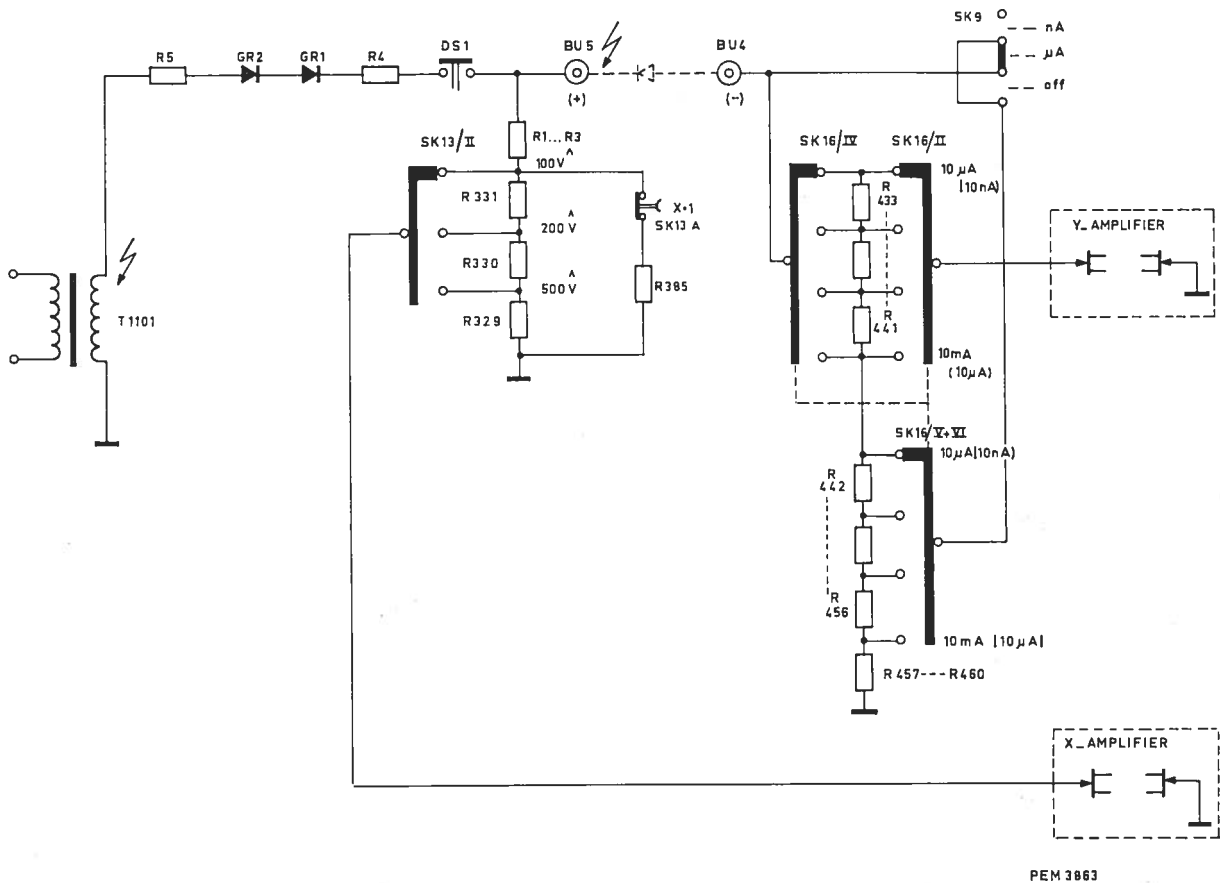

Fig. 60. Measuring circuit for breakdown-voltage and leakage-current measurements
The horizontal deflection determines the collector voltage in 15 ranges. The 3 upper ranges (100, 200 and 500 V/cm) serve for measuring breakdown voltages (H.T. source). These three voltage ranges can be reduced by a factor 10 with push-button x.1 (SK 13A); when this button is depressed, parallel resistor R385 is disconnected (Fig. 60). Switch position " " serves for displaying the step signal whereby the range value selected with SK10 should be employed for reading the signal amplitude. For displaying the base voltage, e.g. as a function of I_B , 4 ranges are available from 10... 100 mV/cm.
3. Circuit for breakdown voltage and leakage current measurements (Fig. 60).